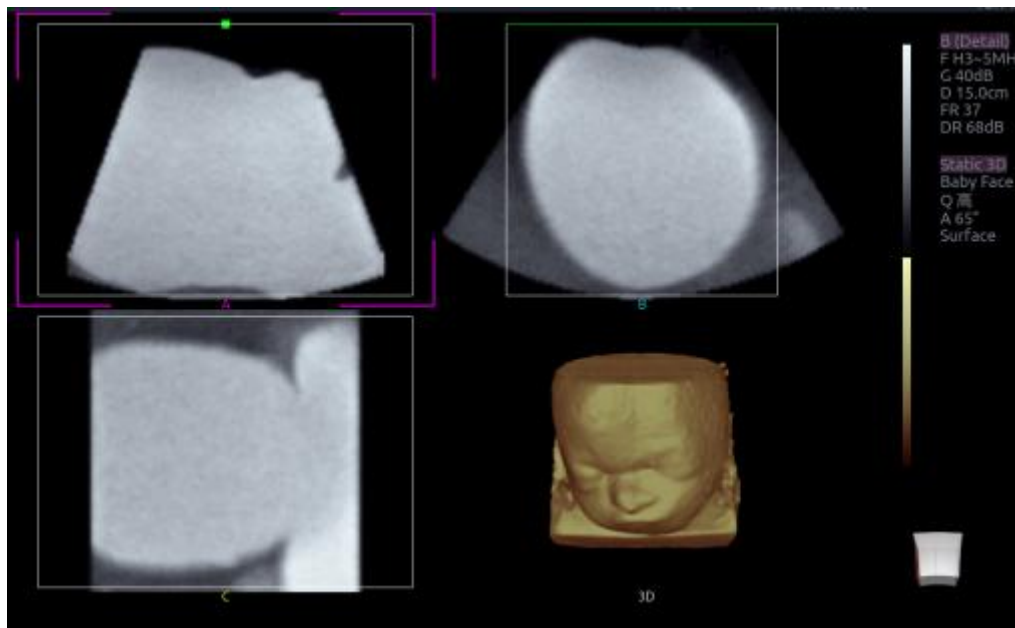

Figure 5-4 3D Image Review
- There are two image modes: Volume imaging mode and multi-slice imaging mode. Figure 5-4 shows Volume Imaging Mode in quad screen with a Baby Face volume rendering.